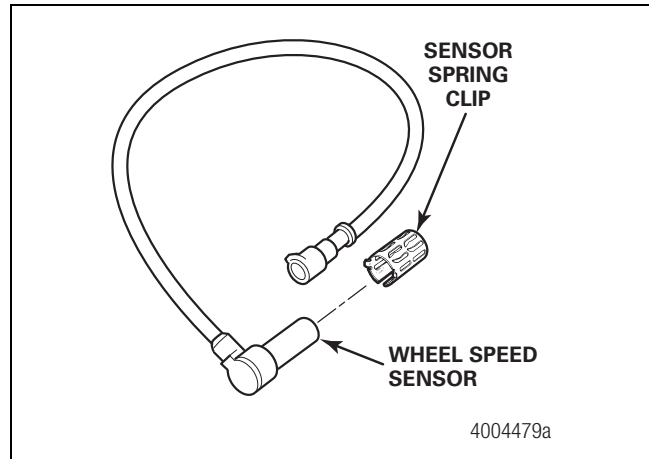

Figure 4.64
5. Remove the sensor spring clip. Figure 4.64.